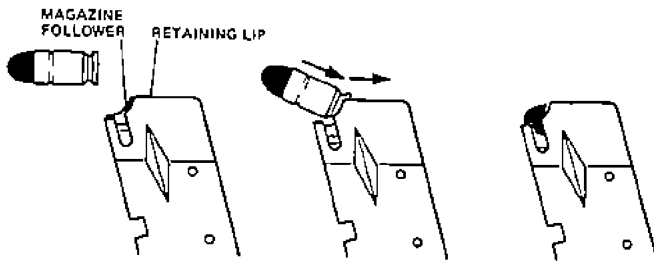

FIGURE 2—LOADING MAGAZINE
3. With open end uppermost, grasp magazine in one hand. Place a round on magazine follower with base just forward of retaining lips (see Figure 2). Press round down and back until base of round touches rear flat edge of magazine. Place next round on top of previous round and press down and back. Repeat until magazine is loaded, but do NOT exceed its capacity. For magazine capacity, see Section 2—Main Features.